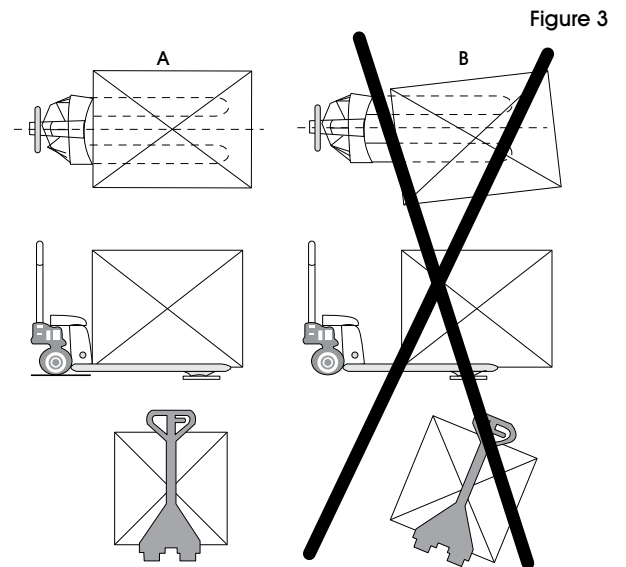

Figure 3
7. Always center loads on the forks, not at the end of the forks. (See Figure 3)